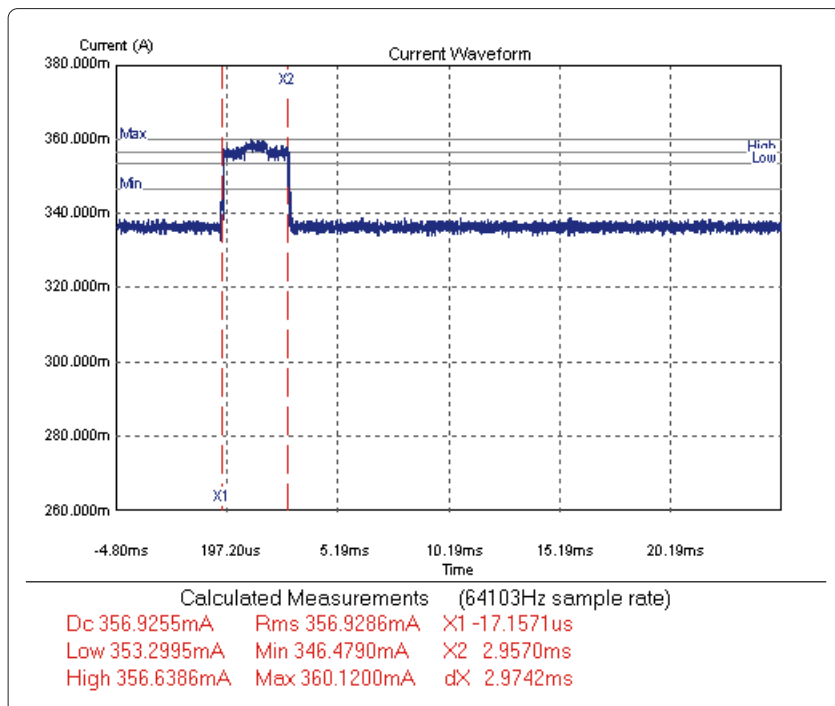

Figure 3. WLAN Card Transmit Beacon Current Drain Pulse
- An expanded view of a transmit pulse is shown in Figure 3. It is found that the transmit current level is 20 mA greater than the receive level. At 3 msec wide these beacon